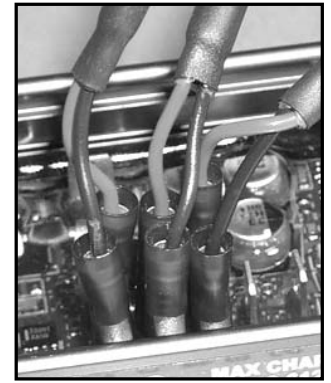

Figure 4 - Proper attachment of optional battery and alternator temp sensors at the regulator.
1. Attach the positive and negative wires to the Alternator Temperature Sensor terminals on the MC-612 (See Figure 4). Observe proper polarity at the terminals.
2. While observing polarity, connect the battery temperature pins to the positive and negative terminals as shown on Figure 4.
**Note:** Battery #1 terminal is capable of temperature compensation and activating warning alarm. Battery #2 terminal activates the warning alarm only. The upper voltage limit for battery temp compensation is 14.8 volts. If higher limits are desired, adjust voltage levels in the Compensation Limit (CL) mode of the advanced programming adjustments.